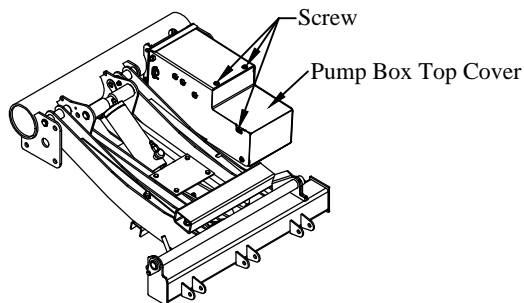

Figure 2: Pump box.
- 3. Remove** the pump box top cover by removing the three (3) screws, and verify that the vent plug is installed (Figure 2).